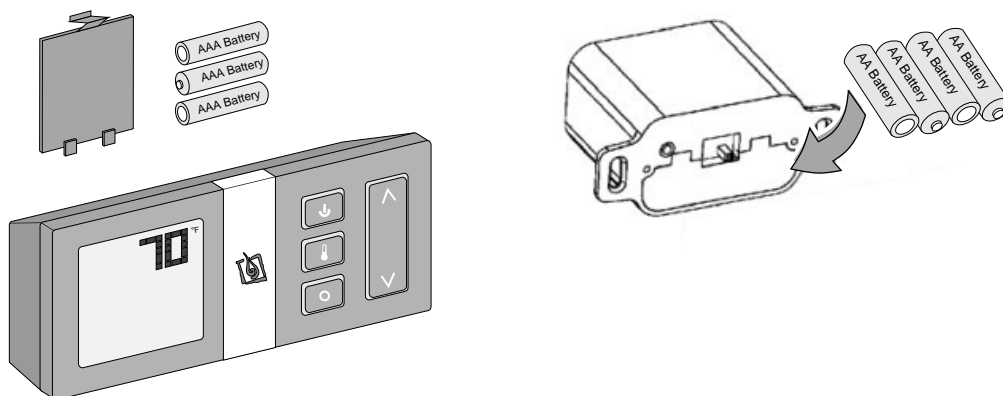

Figure 14
Install four AA batteries into the battery holder (see Figure 14 below). These batteries act as a power backup in case the household (AC) current goes out.